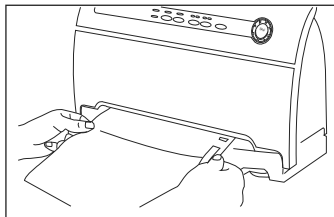

Figure 7
2. Using two hands, insert open end of bag into Vacuum Channel (E) until clamp motor starts. (See Figure 7) The vacuum progress lights will illuminate.
**NOTE:** To prevent crushing delicate items, you may press Stop/Seal Button (C) at any time to begin automatic sealing process.
4. When red Seal Indicator (10) turns off, remove bag. Refrigerate or freeze if needed.